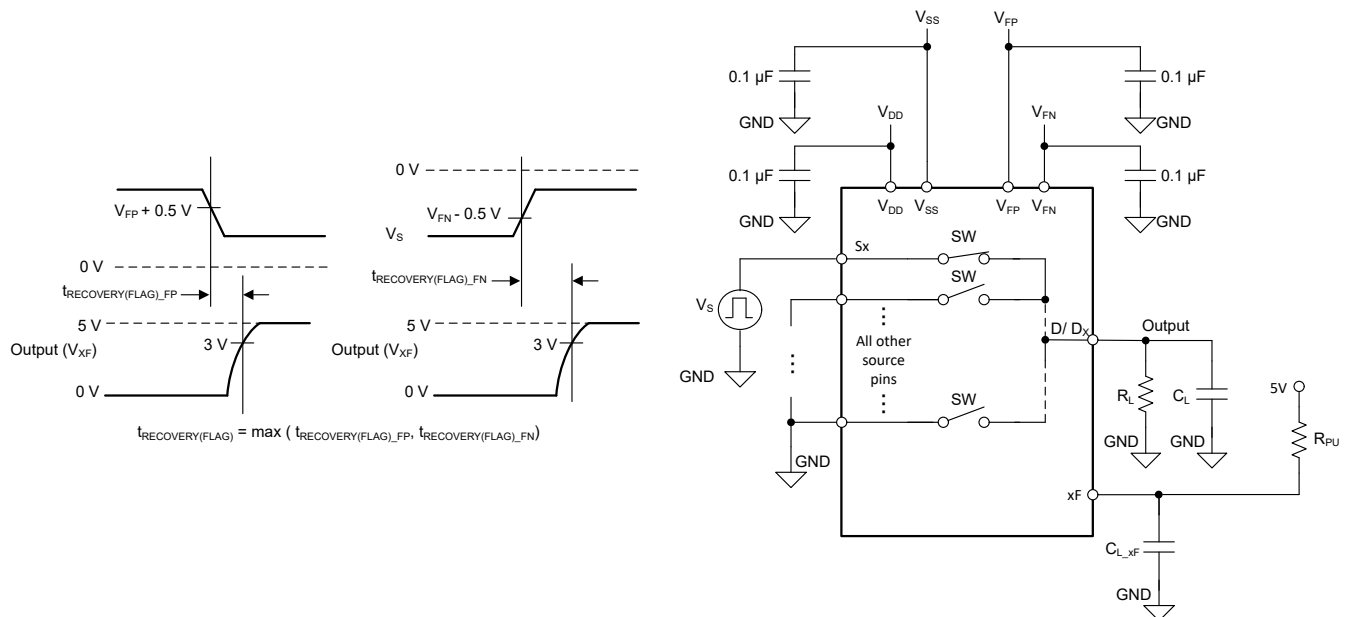

Figure 7-12. Fault Flag Recovery Time Measurement Setup
Fault flag recovery time ($t_{\text{RECOVERY(FLAG)}}$) measures the delay between the source voltage falling from overvoltage condition to below fault supply voltage (V_{FP} or V_{FN}) plus 0.5 V and the general fault flag (FF) pin or the specific fault flag (SF) pin to rise above 3 V with 5 V external pull-up. Figure 7-12 shows the setup used to measure $t_{\text{RECOVERY(FLAG)}}$.